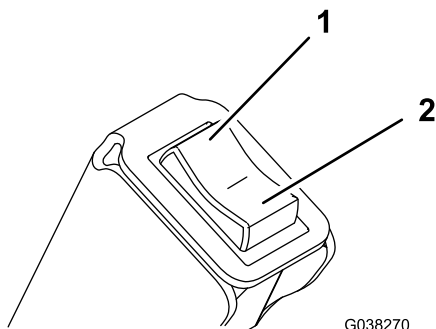

Figure 11
2. Dump the hopper by pushing the top of the dump switch (Figure 11).
3. Lower the hopper by pushing the bottom of the dump switch (Figure 11).